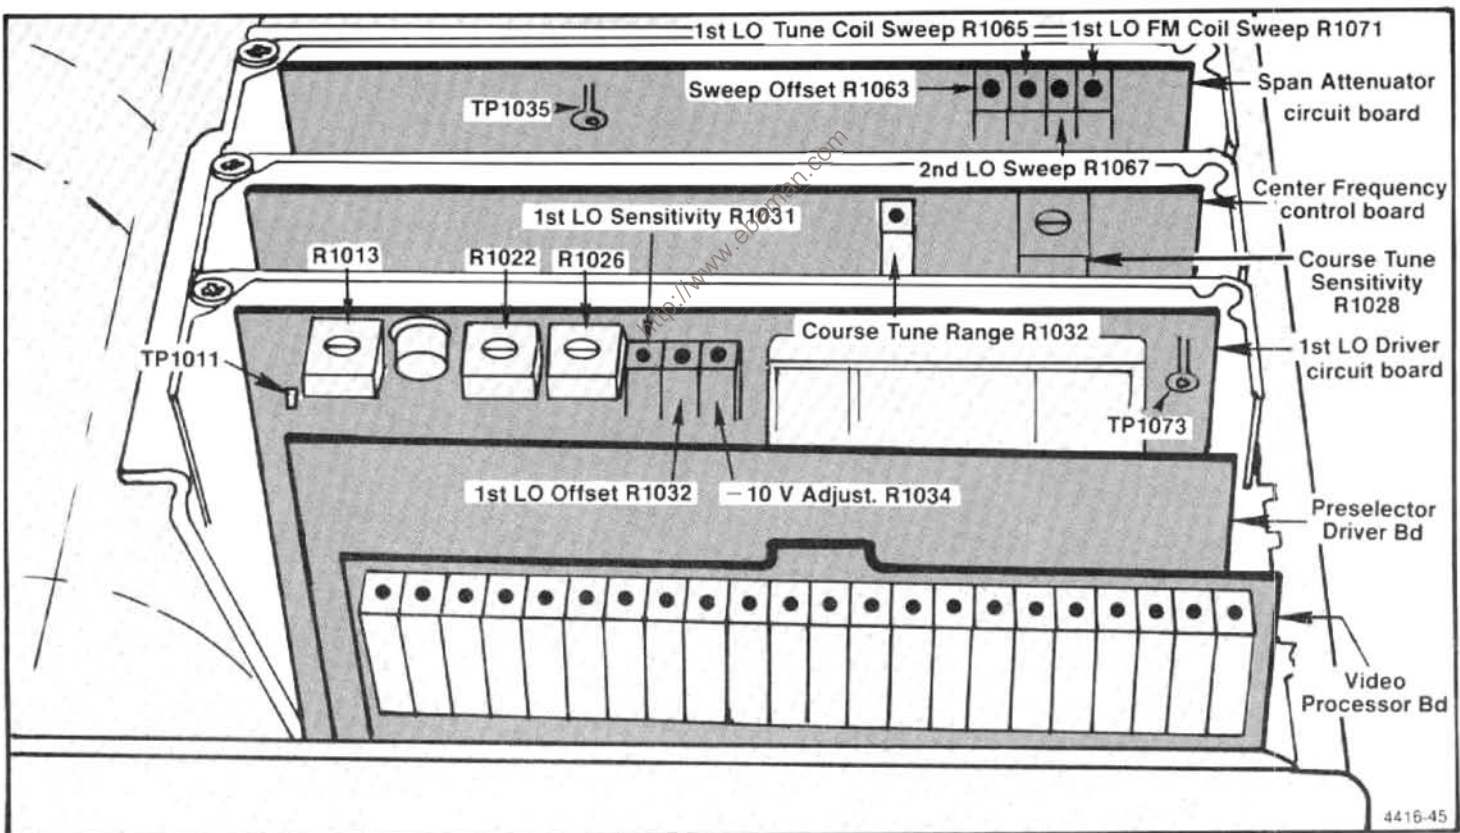

Figure 5-10. Adjustment and test point locations for calibrating the frequency control system.
b. Connect a shorting strap from TP1035, on the Span Attenuator board, to chassis ground (Figure 5-10). Connect the DVM between TP1073 and ground.
c. Adjust Sweep Offset R1063 (Figure 5-10) for 0.00 V.
(1) Apply the CAL OUT signal to the RF INPUT, set the FREQUENCY to 600 MHz, FREQ SPAN/DIV to 100 MHz and adjust REF LEVEL to display the markers.
(2) Adjust Tune Coil Swp R1065, on the Span Attenuator board (Figure 5-10) for one marker per division over
(3) Remove the Calibrator signal and apply 0.2 μ s time marks from the time mark generator to the RF INPUT.
(4) Set the FREQ SPAN/DIV to 5 MHz, REF LEVEL to +10 dBm, and FREQUENCY to about 10 MHz.
(5) Adjust the 1st LO FM Coil Swp, R1071 (Figure 5-10), for 1 marker/division over the center eight divisions of the display.